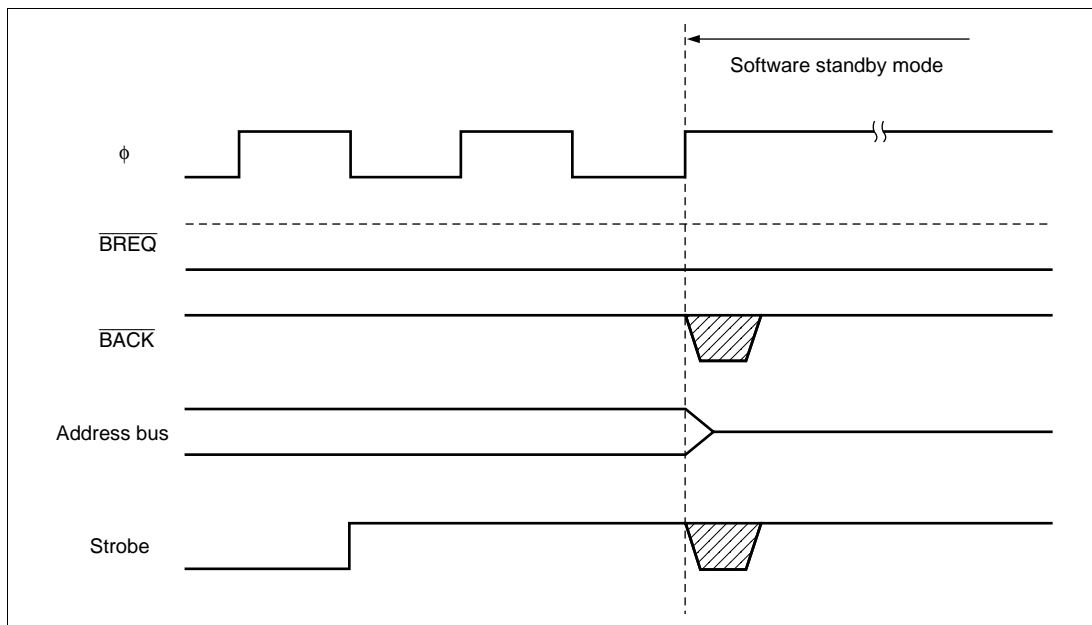

Figure 6.36 Bus-Released State and Software Standby Mode
- In the event of contention with a bus request from an external bus master when a transition is made to software standby mode, the **BACK** and strobe states may be indeterminate after the transition to software standby mode (see figure 6.36).